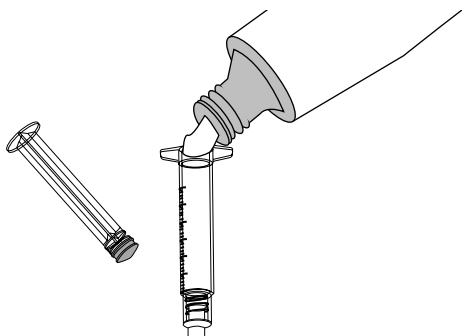

Figure 5
4.5 After ensuring that the green syringe tip is secured to the 3 ml syringe, remove the syringe's plunger and fill the syringe with enough 737 RTV sealant to seal any damage to the closure (Figure 5). Replace the plunger in the syringe.